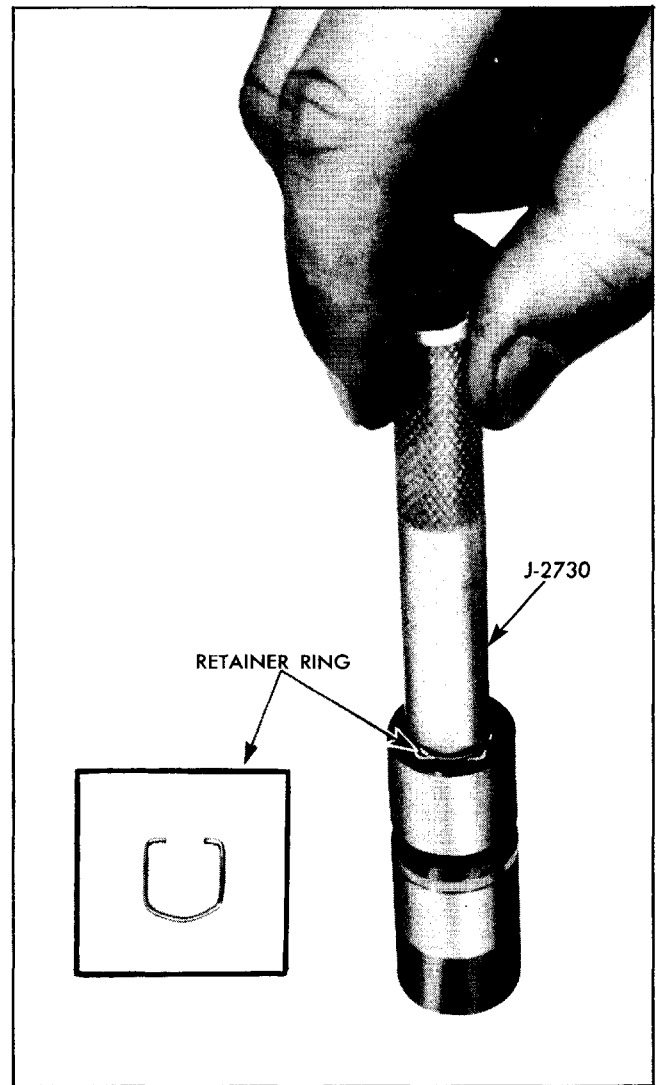

Fig. 6-51 Installing Retainer Ring
5. Place lifter body on clean paper; rinse and install push rod seat and retainer ring. Retainer Ring Installer J-2730 facilitates installation (Fig. 6-51).